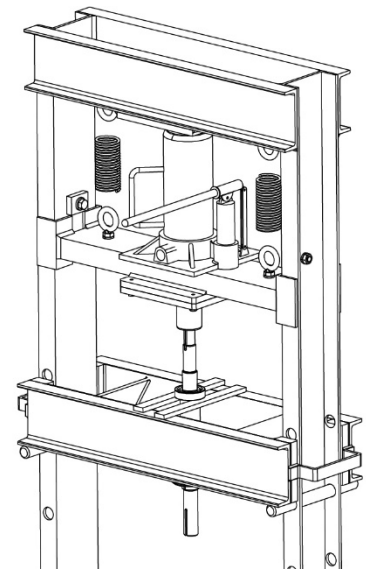

Figure 11-2: Setup for Removing Bearings
- 7. Inspect all sealing items for wear, scratches or damage. It is recommended to replace all sealing parts upon downtime or repair specifically, packing (106 – not shown), component mechanical seals (383 – not shown), sleeve (126) and shaft (122).
- 8. Slide the deflector (123) off the end of the shaft (122). It may be difficult at first to move the deflector (123), use two flat screwdrivers to initially slide the deflector (123) away from the bearing frame (228). Take extreme care as not to damage the bearing frame (228), lip seal (333A) or bearing end cover (119).
9. Remove the shaft kit assembly from the bearing frame (228). Begin by unthreading bolts (370C) from the bearing frame (228). Loosen the jam nuts (423) and slide the bearing housing (134) using the jacking bolts (370D). Once the O-ring (496) is visible the shaft kit assembly should be able to be removed out by hand.
10. Unclip the snap ring (361A) from the bearing housing (134) and slide the bearing housing (134) off the outboard bearing (112).
11. It is recommended to replace lip seals. Remove lip seal OB (332A) from bearing housing (134). Remove the lip seal IB (333A) from the bearing frame (228). The bearing end cover (11) may come out with removal of lip seal IB (333A). Take care as not to damage machined surfaces. *This step is not necessary if keeping the same seals upon reassembly.*
12. If removing bearings, bend up the locking tab on the lock washer (382) locking it to the locknut (136). Unthread the locknut (136) from the shaft (122).
13. Spin ball bearings and replace if noisy, loose or worn. Do not unwrap new bearings until they are being installed on the shaft. Avoid reusing bearings that have been removed from shaft (122).
14. Using a hydraulic press, support the shaft and bearing assembly from the inner race of the bearing. Setup the hydraulic ram on the end of the shaft (122) and begin to press the shaft (122) through the bearing. Bearings will get pressed off one at a time. Refer to Figure 11-2.